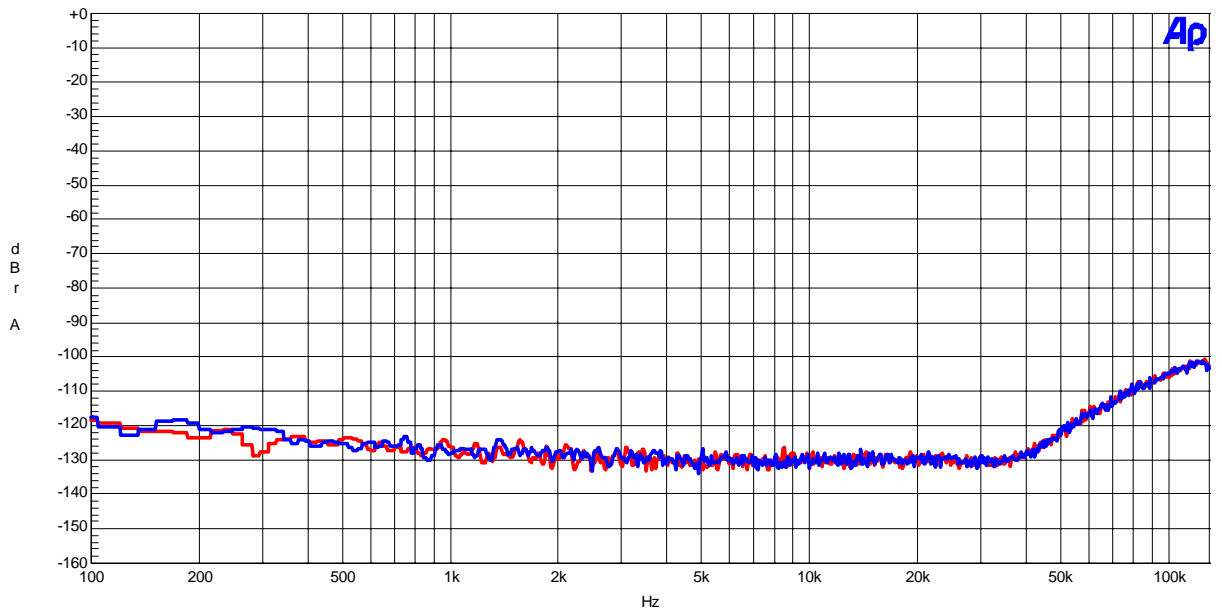

Figure 26 FFT (out-of-band noise)
- Figure 26 FFT (out-of-band noise)